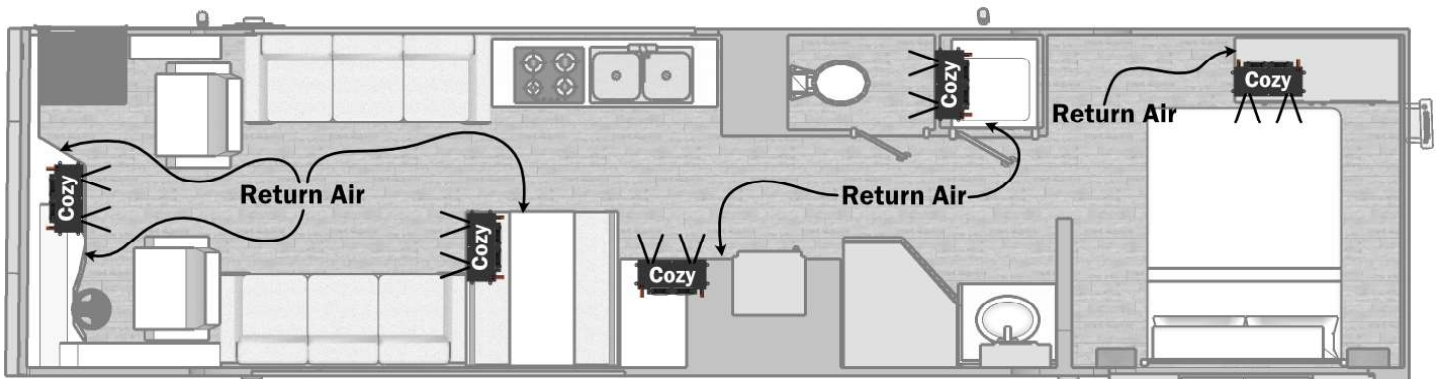

Figure 137
- Must be cold air returns installed for every heat exchanger (reference Figure 137)